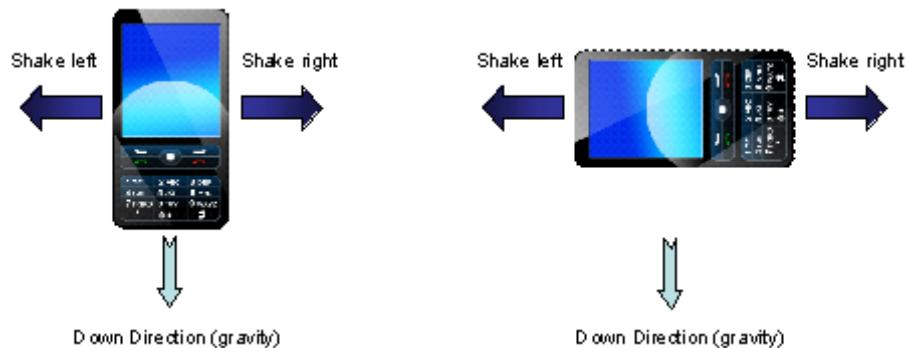

Figure 9
- Figure 9 is the reflow profile for Pb free process